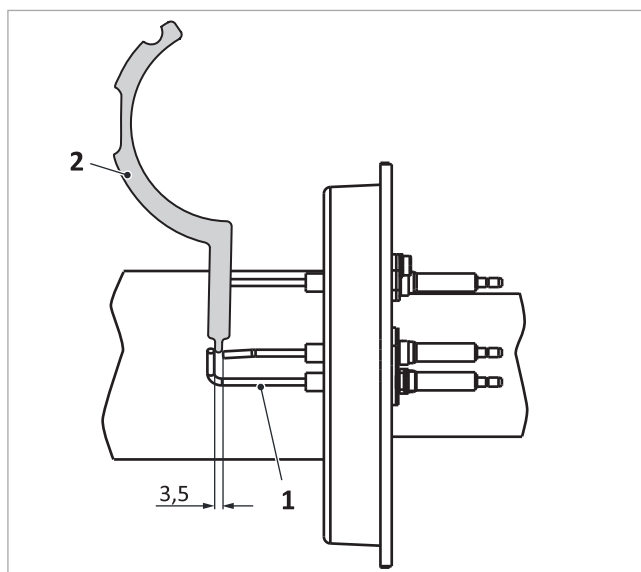

Fig. 50: Clearance from electrode to gauges on the ignition electrode
2. Check the spacing of the ionisation electrodes with the aid of an electrode gauge → Fig. 50 (2) (correct them, if necessary, by carefully bending them).
- Between the electrodes → Fig. 50 (1): 3.5 mm